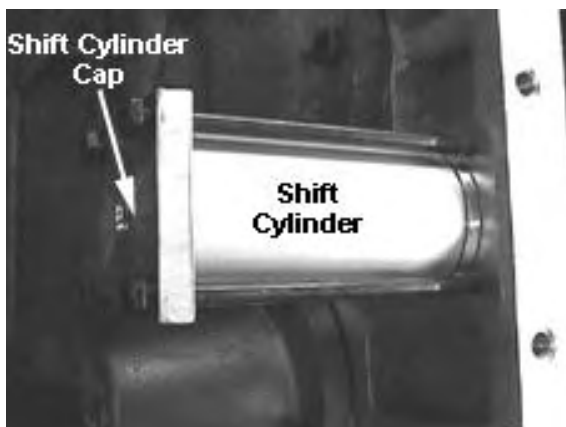

Fig. 91
51. Install the shift cylinder cap onto cylinder using Loctite #242 on the bolt threads. Torque to spec. See Fig. 91.